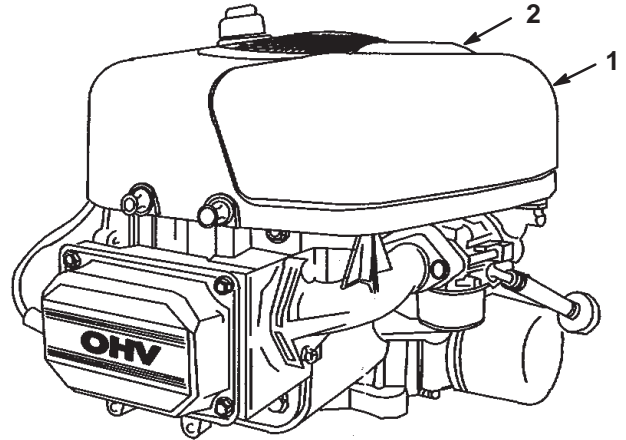

Figure 21
3. Clean around the air cleaner to prevent dirt from getting into the engine and causing damage. Pull up on the air cleaner cover handle and rotate it toward the engine (Fig. 21). Remove the air cleaner cover.